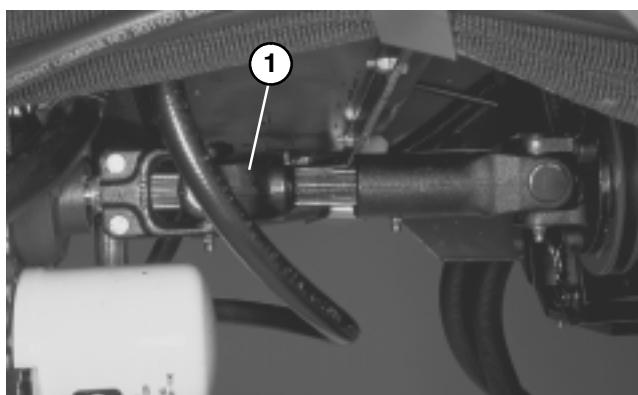

Figure 31
TOWING TRACTION UNIT (Fig. 31 & 32)
1. Loosen and remove capscrews securing the drive shaft to the engine drive coupler. Loosen capscrews clamping drive shaft to transmission (Fig. 31). Remove drive shaft.
5. When towing is completed, reinstall driveshaft as shown in figure 31. The splines are designed to allow assembly only when the two halves of the shaft are properly oriented.